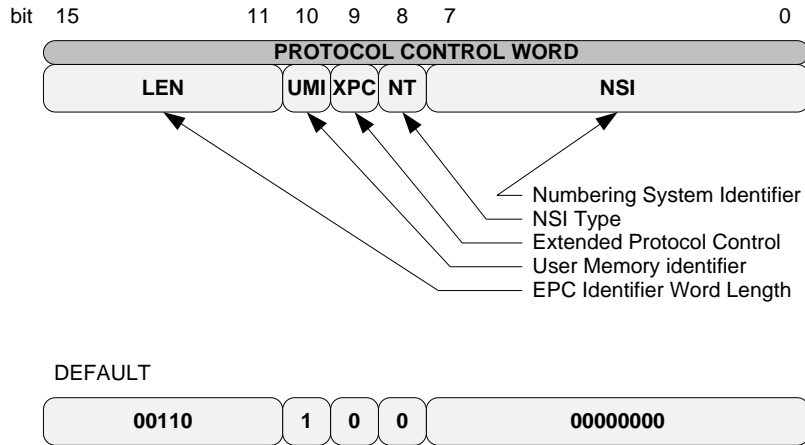

Figure 4. EPC Protocol Control Word
The EPC memory bank accommodates 8 words: 1 protocol control (PC) word, a 6-word (96-bit) memory space for an EPC identifier, and a 1-word CRC. The CRC word is calculated as part of the WM72016 power-on initialization routine and written into the EPC memory bank address 0x00. The PC and 6-word EPC identifier are completely programmable. The Protocol Control field is shown in Figure 4.